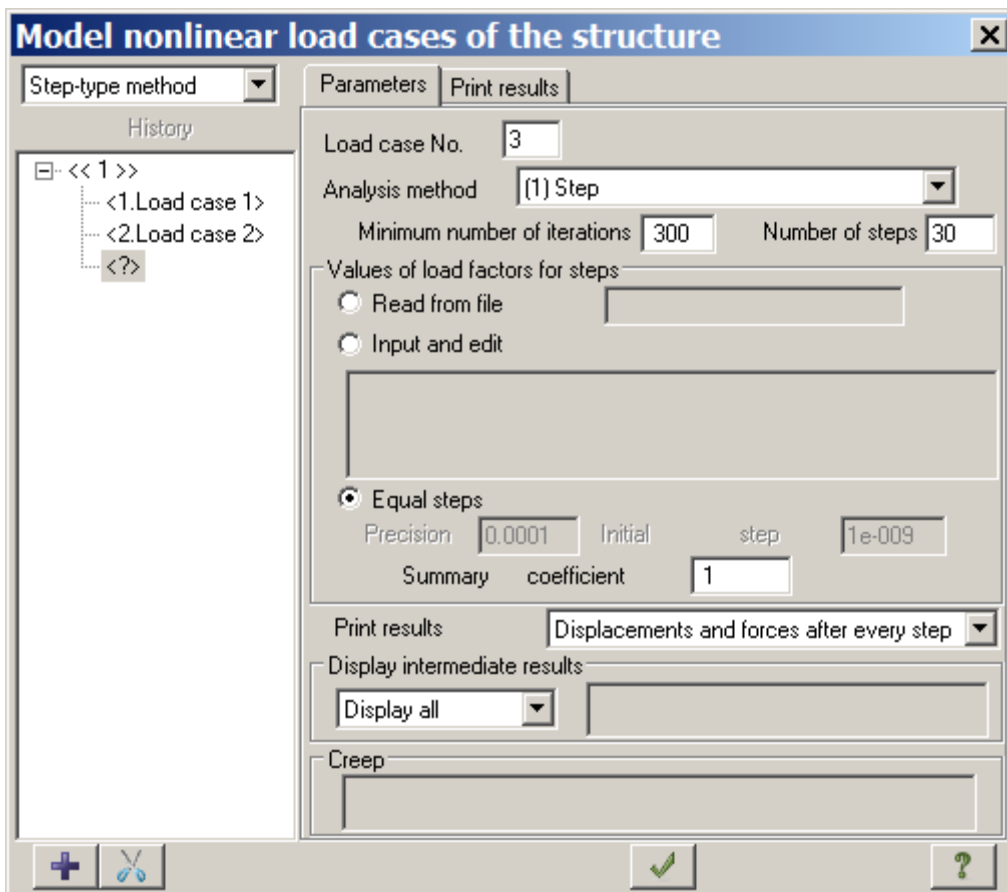

Figure 7.22 **Model nonlinear load cases of structure** dialog box
- ⇒ In the **Model nonlinear load cases of structure** dialog box (see Figure 7.22), click the **Add** button  (in the left part of the dialog box, under **History**, the first load history is added and the row with load case indicated with question mark will become selected automatically).
- select **Step (1)** in the **Analysis method** list box;